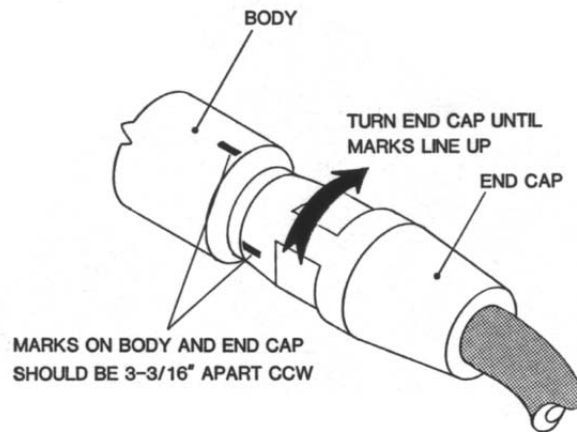

Figure 9-30. Tighten End Cap to Required Torque..
8. Tighten the End Cap to a torque of 750-1000 ft.-lbs (1015-1355 n-m). If a torque wrench is not available, use the following procedure. See Figure 9-30.